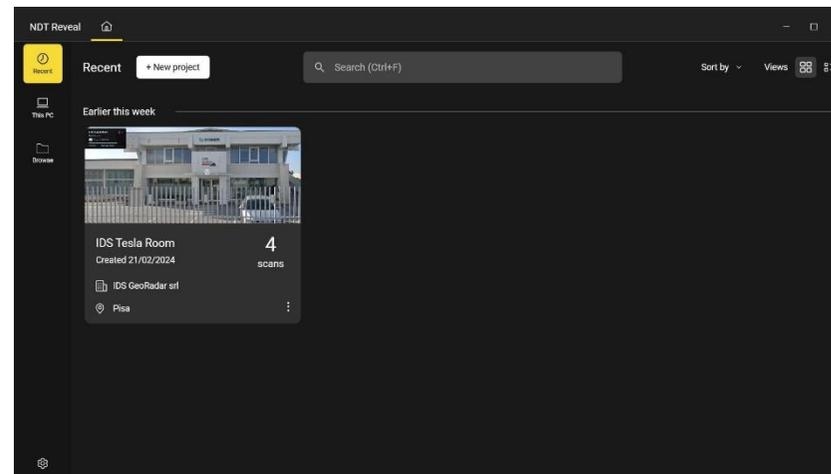

Fig. 21 Project List as visualized in Main Page
6. Press “Create” to save the New Project and this shall be visualized in the Main page as in Fig. 21.
1. From the project list (Fig. 21), select and open the Project you want to work on,
- From the project list (Fig. 21), select and open the Project you want to work on,